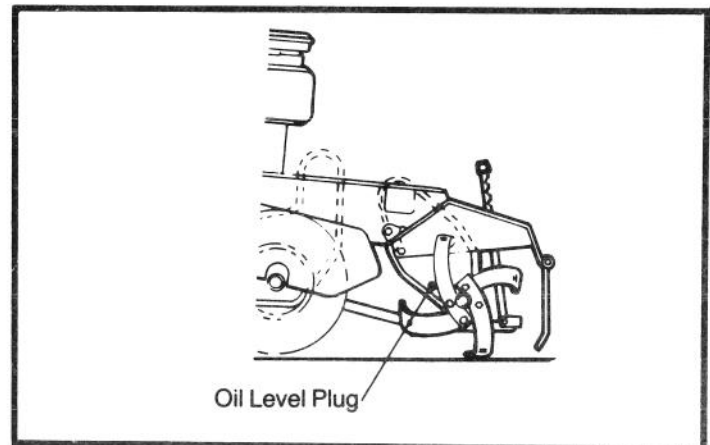

FIGURE 14A
- C. Wipe dirt away from oil level plug and remove plug, Fig. 14A. Oil should be up to the bottom of hole.